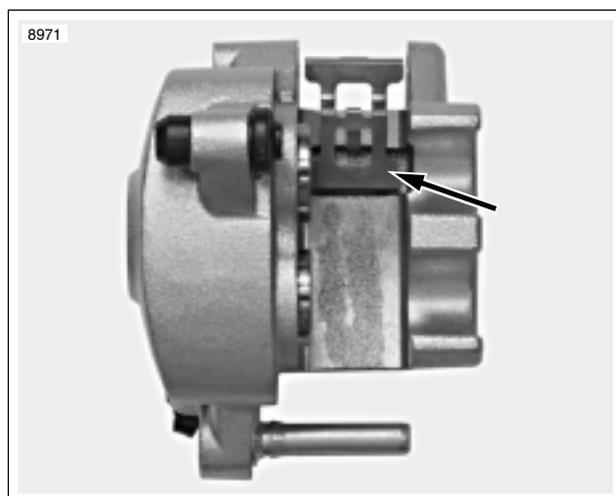

Figure 1-22. Front Caliper Pad Spring
- See Figure 1-22. When replacing front brake pads, make sure pad spring does not become dislodged and fall out. If it does, you will have to reinstall it before installing new pads.
- Pad spring orientation must match Figure 1-22.